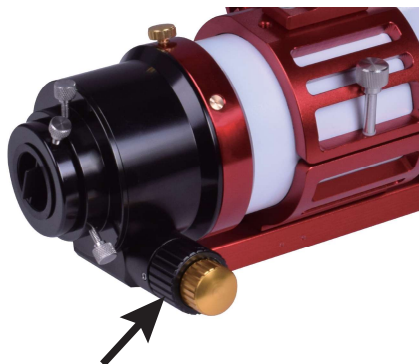
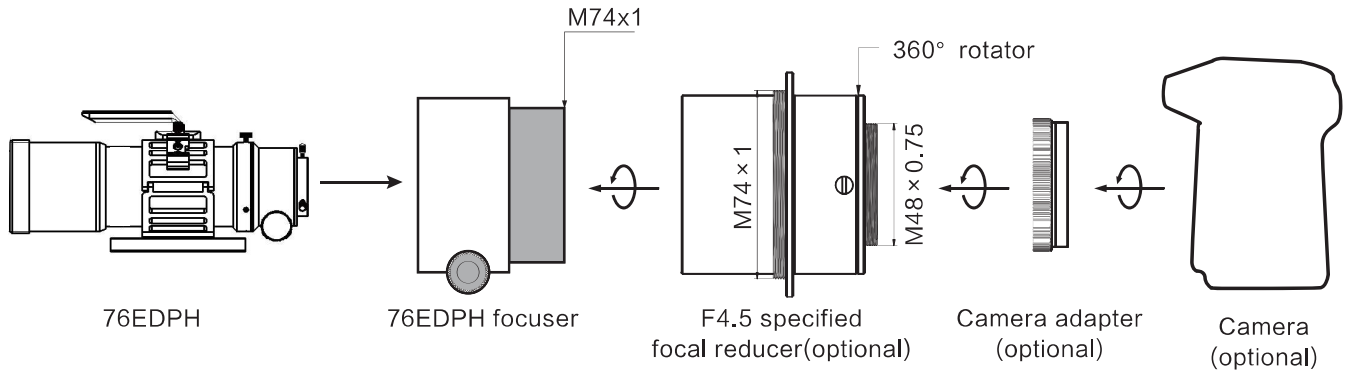

fig.2
fig.3
3. Use the finderscope or directly collimate the observed object, and then turn the rough focusing knob to make the target gradually clear (figure 2), and then turn the golden microdrive knob to get the clearest image (figure 3).